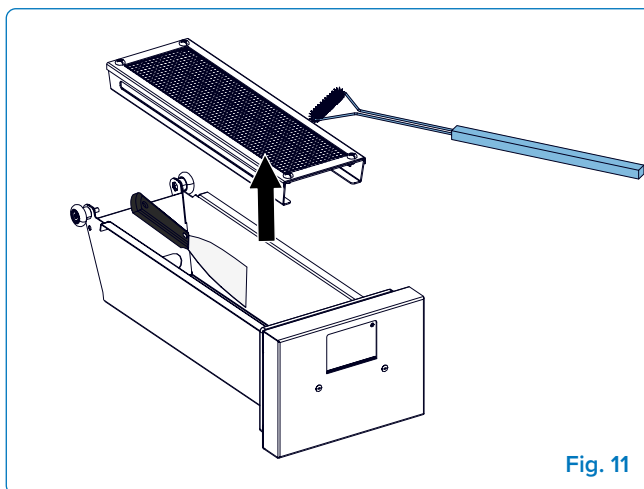

Fig. 11
4. **Remove and Clean the Mesh** – Take out the mesh that holds the wood chips. Shake off any remaining debris and brush it clean (**Fig. 11**).